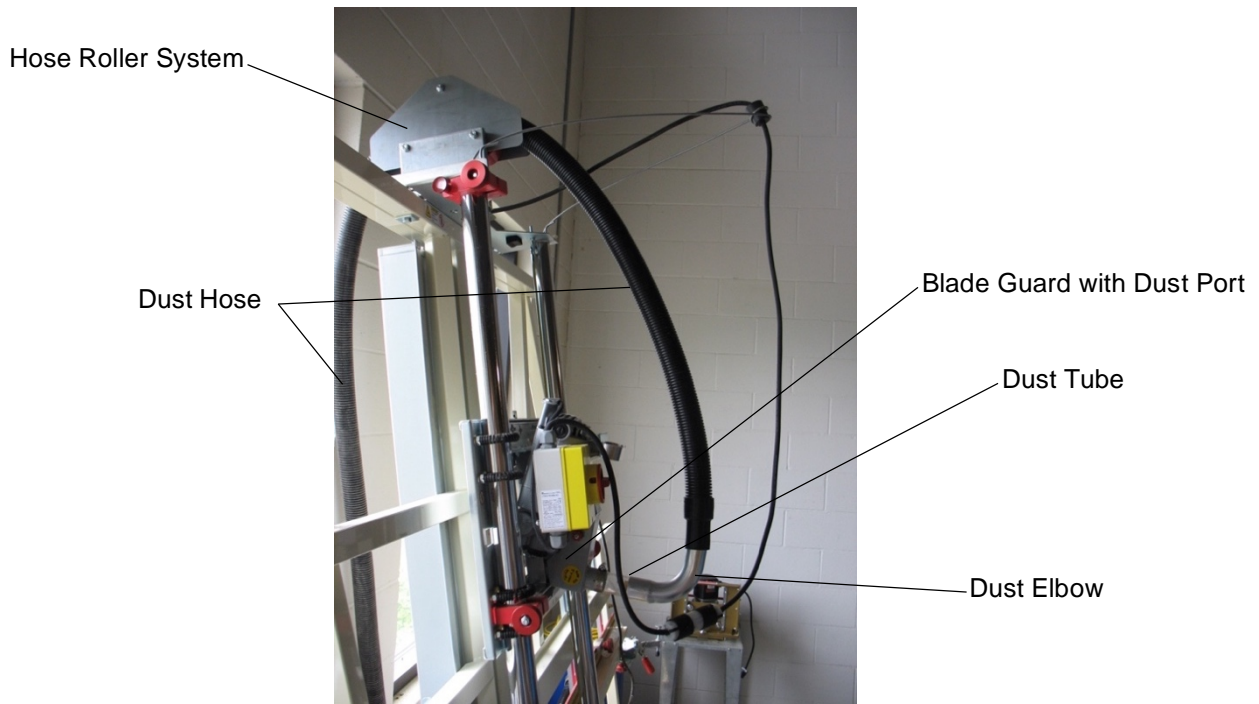

Fig. 51: Installed Dust Collection Kit
3. Slightly loosen the bolts that secure the aluminum extrusion (#5, Fig. 51) to the rear support brackets (#9), to allow the extrusion to be moved up or down by tapping it with a mallet.